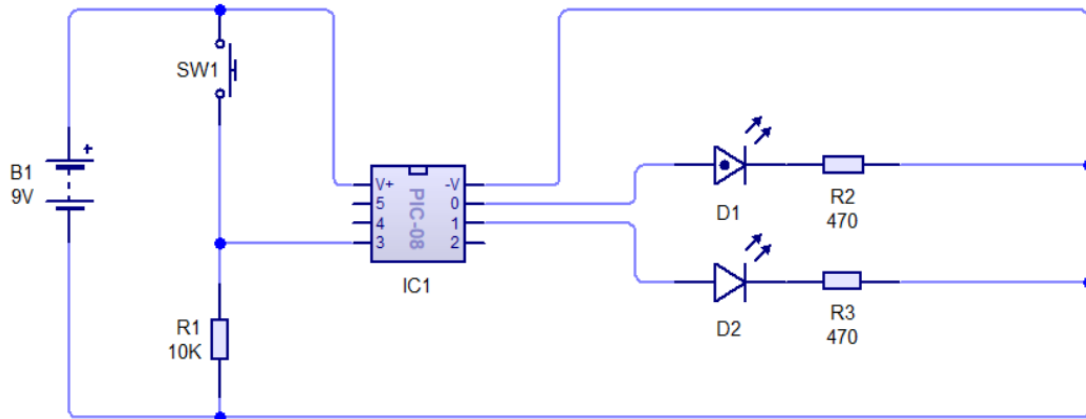
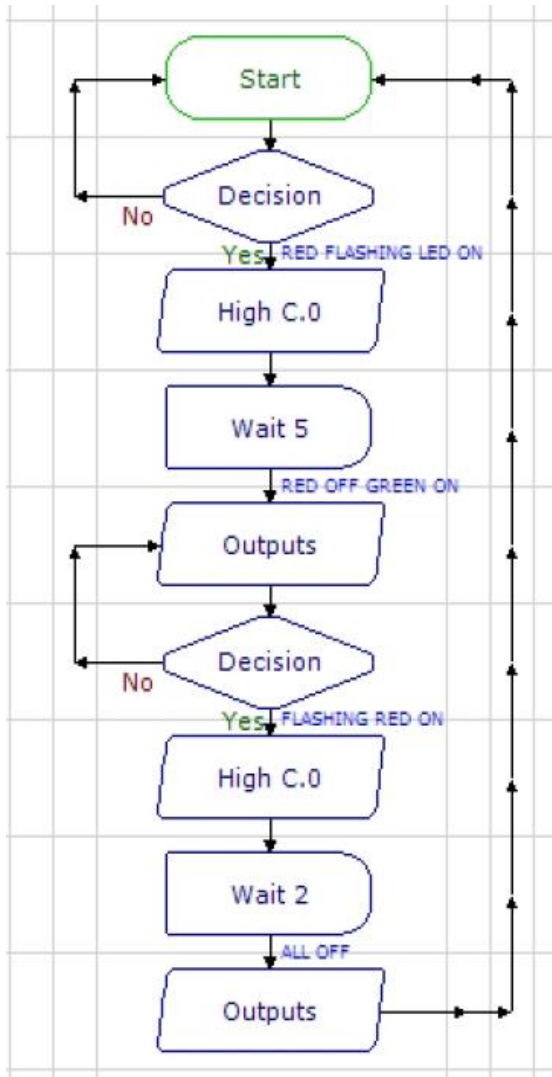
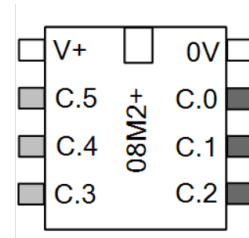
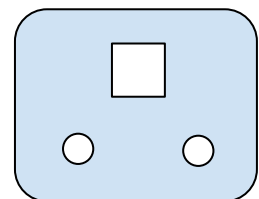

Figure 1
Figure 2
Figure 3
Figure 4
- i) Claim: Everyone prefers black coloured devices. Test _____ (1)
- ii) Claim: Elderly will not be able to use this object, but kids will. Test _____ (1)
- iii) Claim: The hinge is unbreakable. Test _____ (1)
- 8) One useful feature to help during video filming is a count-down timer. This can be achieved using a microcontroller circuit. A microcontroller circuit is shown, Figure 1, that will blink a red light for 5 seconds, then a green light will light-up, and recording will start.
- a) Component _____ will switch on the circuit timing. (1)
- i) Figure 1 shows a (model circuit, a schematic diagram, a flow chart). (1)
- ii) IC1 is a (resistor, microcontroller IC, light emitting diode). (1)
- iii) D1 is a component that gives out a blinking red light called a flashing (LTT, LED, DED). (1)
- c) When the circuit shown in Figure 1 will be triggered (switched on), the microcontroller will automatically make the red light blink for 5 seconds and then the green light goes on. List **ONE** general advantage of using a microcontroller circuit.
- 9) The function of the circuit shown in Figure 1 is also shown in the following flowchart, Figure 2. The pins of 8 pin IC1 are shown in Figure 3, below.
In Figure 2 the following inputs and outputs are used:
b) Part of the flowchart in Figure 2 is shown again below. When the user presses again SW1, the red light flashes again for some time until both lights turn off.
i) Write the command that should be used to make C.0 remain lit for 2 seconds. Write your answer on the diagram below. (1)
10) A case will be created to contain the circuit shown in Figure 1 and make the device more usable. Figure 4 shows an acrylic plastic case including slots for SW1, L1 RED and L2 GREEN.